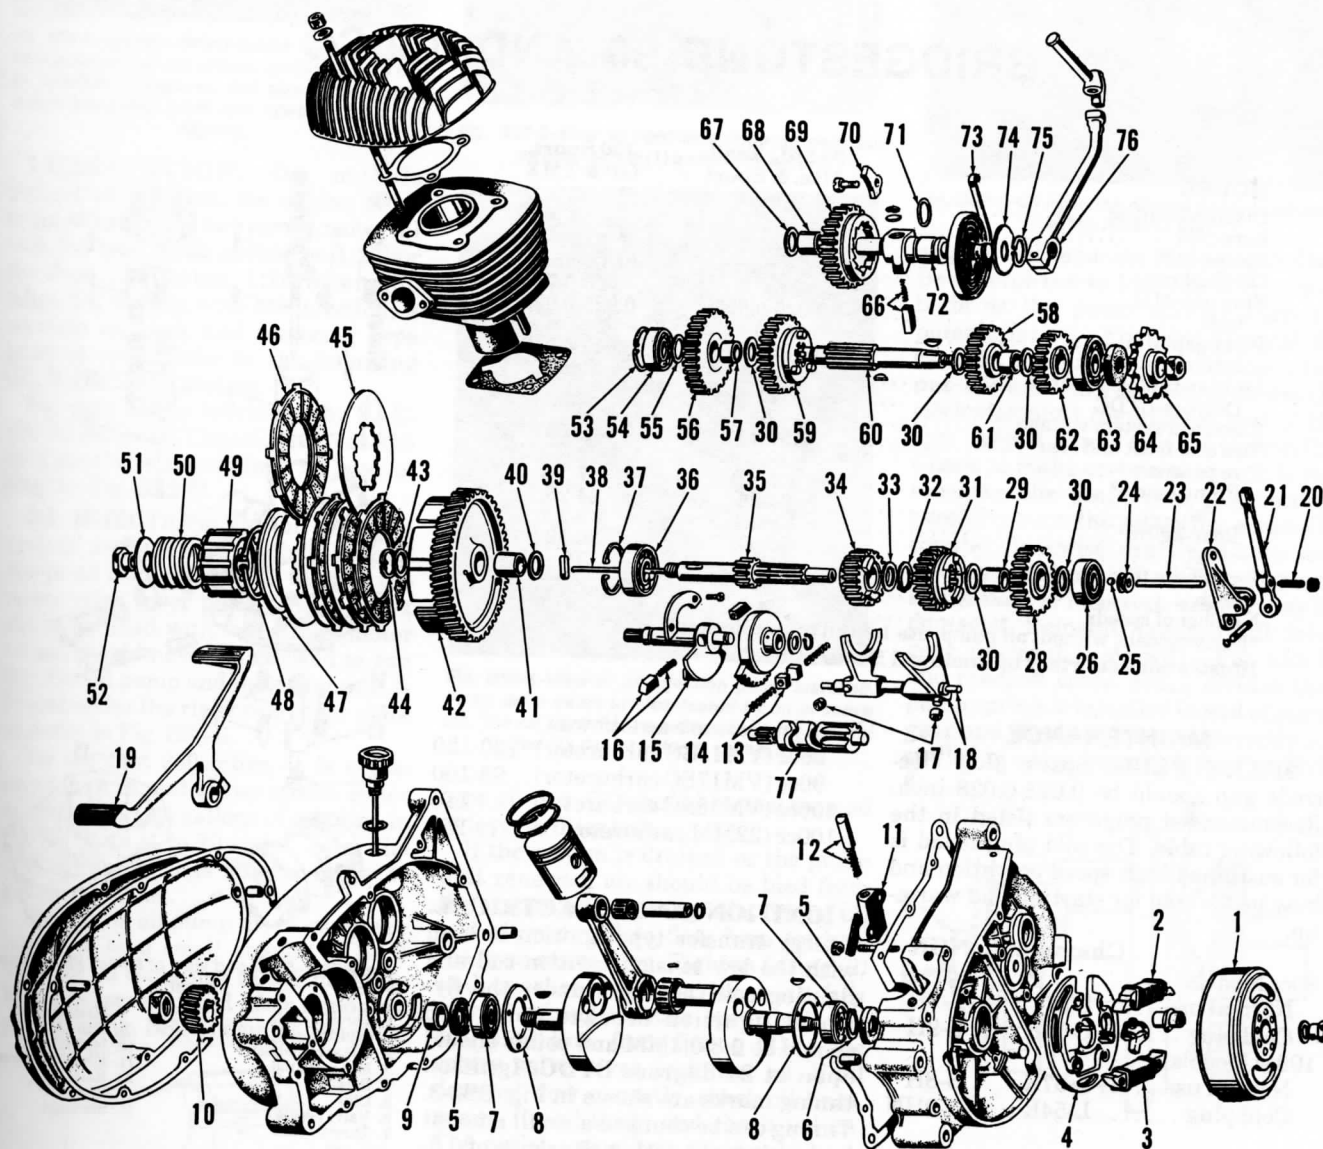

Fig. BE1-6—Exploded view of engine and transmission.
(20—Fig. BE1-6) in clutch lever under the engine left side cover.
CLUTCH. The manual, multiple disc wet type clutch is mounted on the right end of the transmission input shaft as shown in Fig. BE1-6. The clutch is actuated by lever (21) on left side and rods (23 & 38) which go through center of the input shaft. The actuating block (39) is used as drive key and disengaging block. When reassembling, smooth side of pressure plate (47) should be toward retaining ring (48). Tighten nut (52) to 36 Ft.-Lbs. torque.
the crankcase halves. Refer to Fig. BE1-6. When assembling, the gears and shaft can be assembled in the left half of crankcase and right half can be assembled over the shafts. The timing